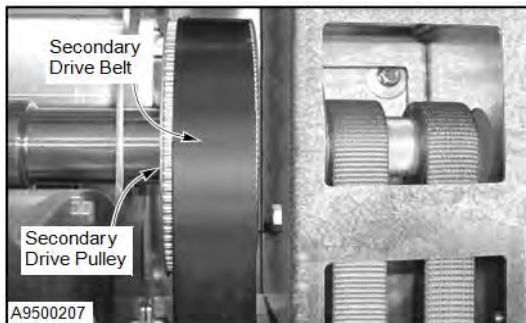

Figure 43
5. Level the door panel by re-indexing the secondary drive belt on the upper drive pulley. To do this, push on the smooth portion of the black toothed belt facing you. Begin sliding your hand up the belt. A wave will begin to form near the top (secondary drive pulley). When the wave reaches the secondary drive pulley the belt will jump or slip as the wave goes around the pulley. (See Figure 43.)